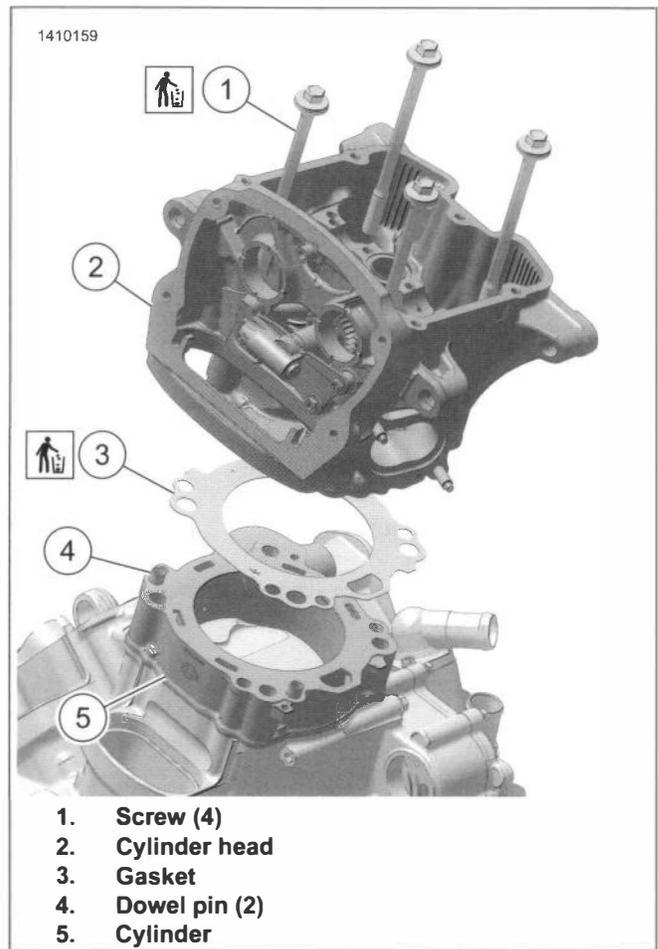

Figure 4-38. Cylinder Head
1. See Figure 4-38. Remove cylinder head.
- a. Remove and discard screws (1).
- b. Remove cylinder head (2).
- c. Discard gasket (3).
3. See Figure 4-38. Install cylinder head.